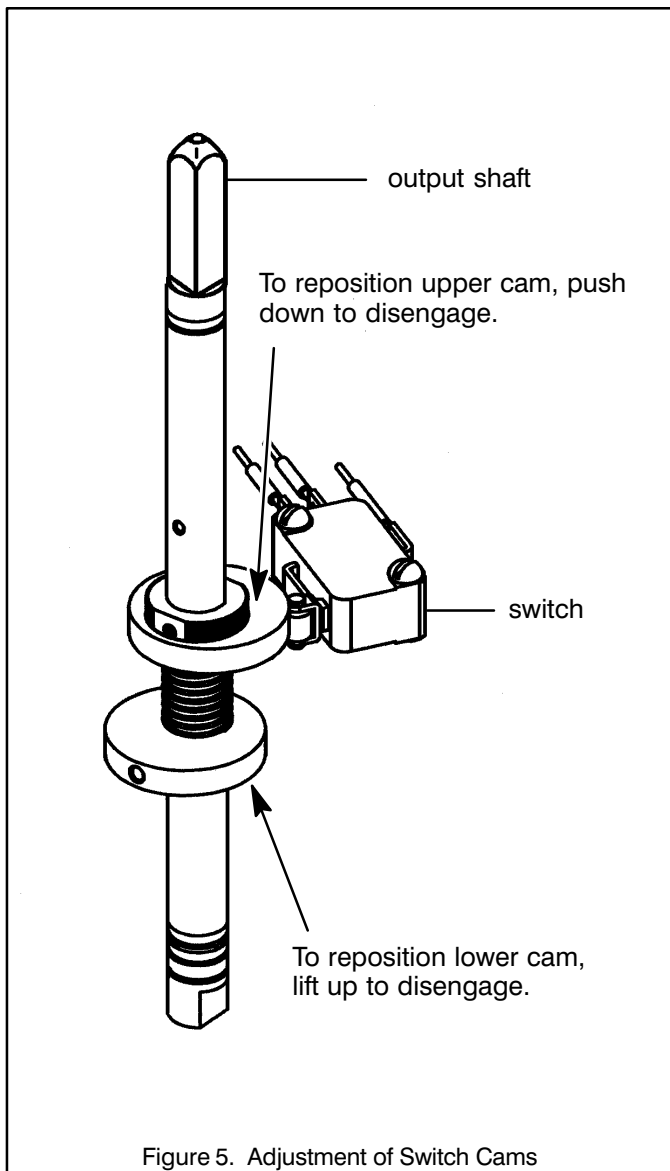

Figure 5. Adjustment of Switch Cams
3. Determine which switch is to be set and lift or depress the corresponding cam as required (refer to Figure 5). Rotate the cam in the opposite direction of shaft rotation until the cam activates the switch and closes the normally open contact for SPDT or DPDT switches. Check that the normally open contact is now close by using an ohm meter or battery power test light.
5. Replace valve position indicator bonnet with visual indicator. Torque bonnet screws (5) evenly in a crisscross manner to 180 ± 5 in-lbs [$20 \pm 0,6$ Nm].